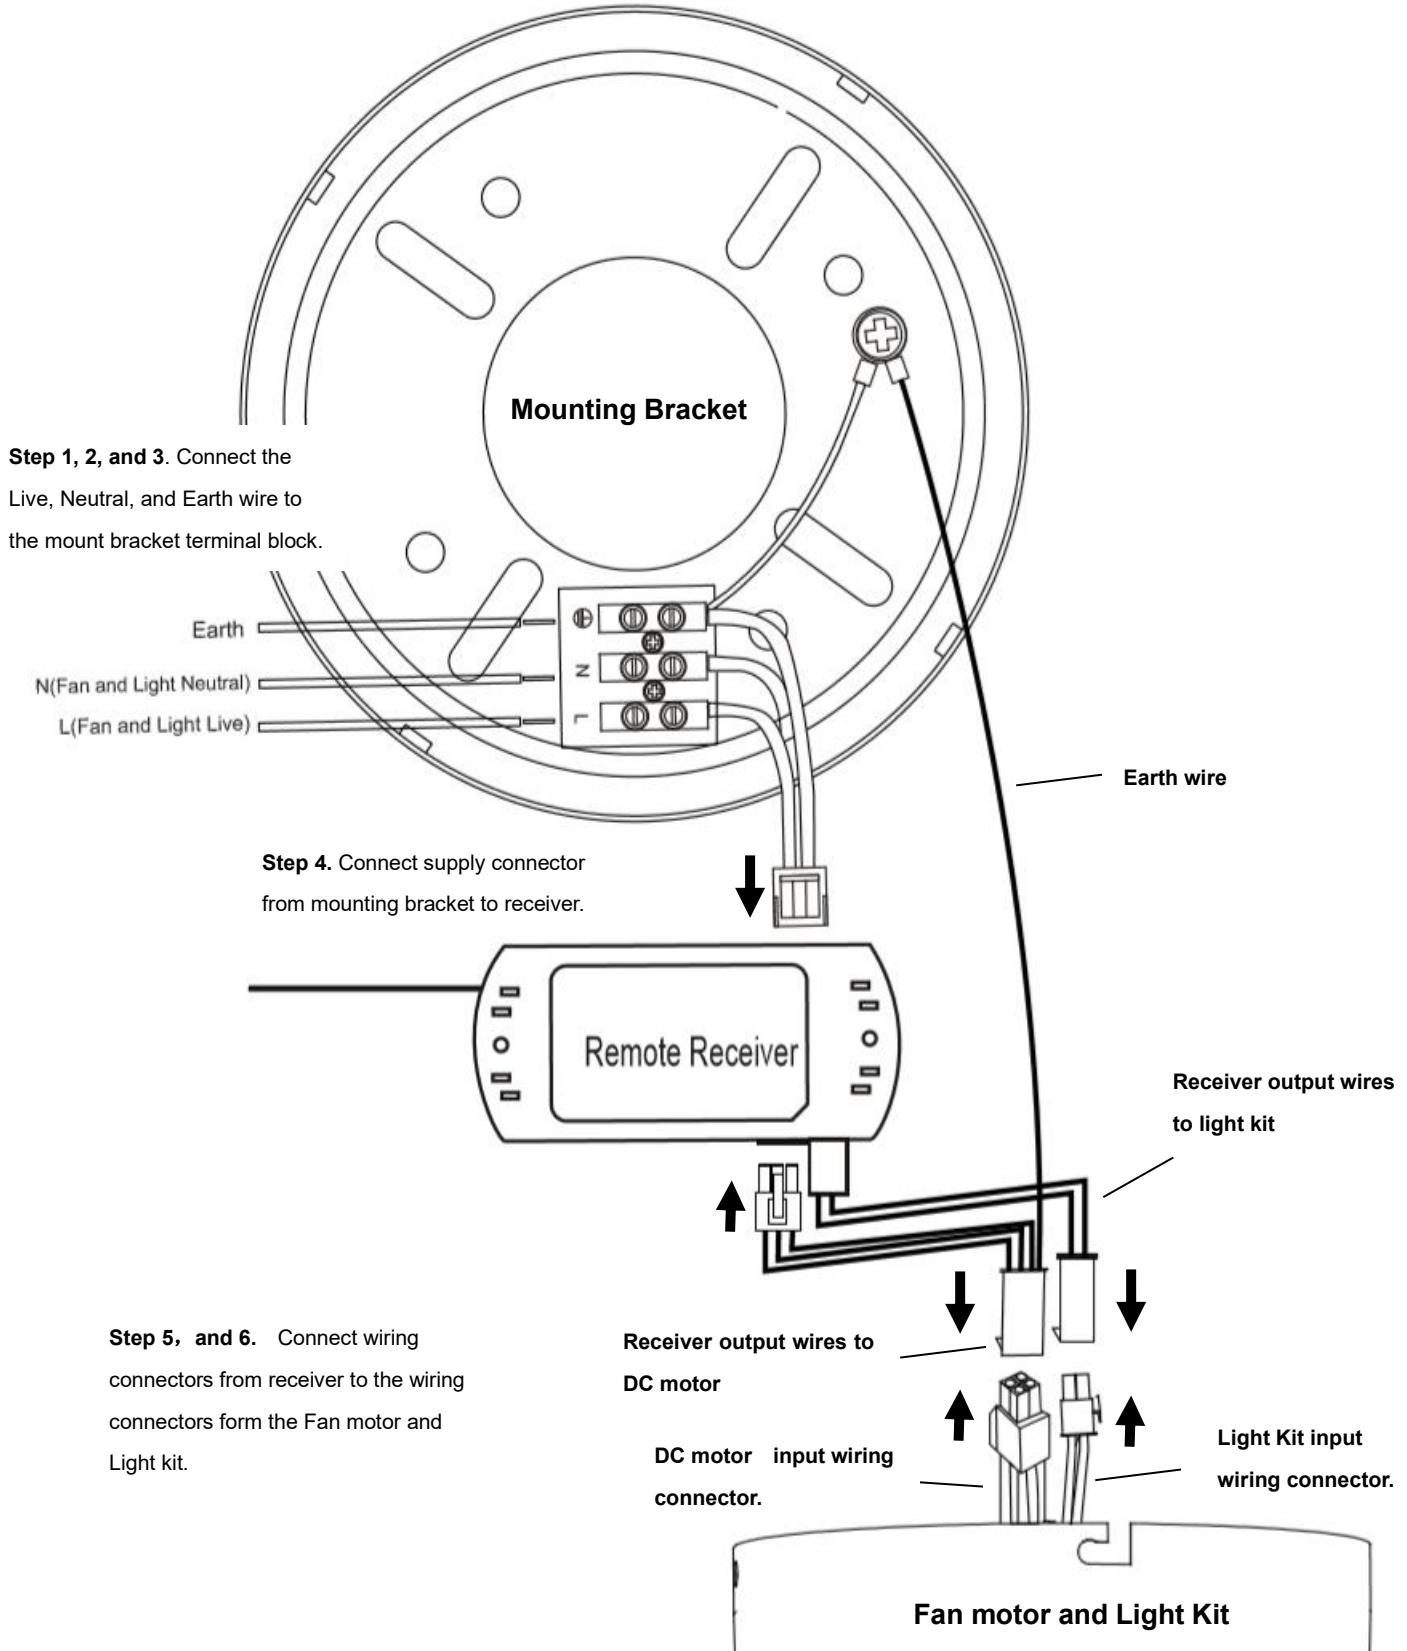

Fig. 4
**PREPARE AND COMPLETE THE ELECTRICAL WIRING --- WIRING DIAGRAM (FIG. 4)**
**From mains supply to mounting bracket terminal block: (Fig. 4)**
**From mounting bracket to receiver and motor: (Fig. 4)**
- Connect the output wires of DC motor driver/receiver (from mounting bracket with earth wire ) to the output of the DC motor driver/receiver (**Fig. 4**). Connect the output wires of DC motor driver/receiver with earth wire (from mounting bracket with earth wire ) to the input of the fan motor (**Fig. 4**)